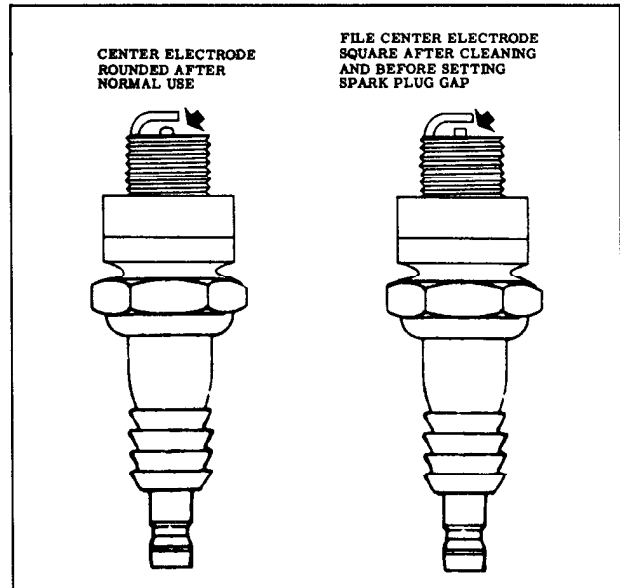

Fig. 13-67 Filing Center Electrodes
1. The center electrode should be filed flat before the gap setting is made. (Fig. 13-67)